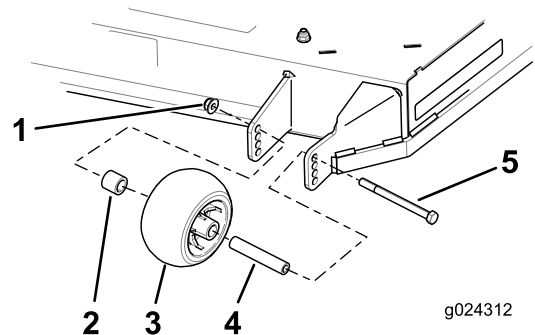

Figure 24
3. Remove the flange nut, anti-scalp roller and bolt from the bracket (Figure 24).
4. Align the bolt and anti-scalp roller in the hole of the bracket that matched the closest height of cut position (Figure 24).
5. Insert the bolt into the bracket hole and secure the bolt and anti-scalp roller with the flange nut (Figure 24).